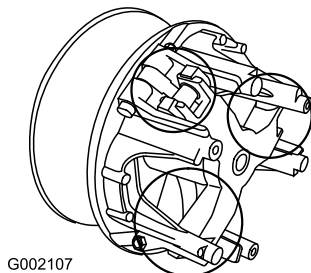

Figure 47
5. Lubricate the moving parts in the areas circled in Figure 47 using Toro Dry Lubricant Spray, available through your Authorized Toro Dealer or Distributor.